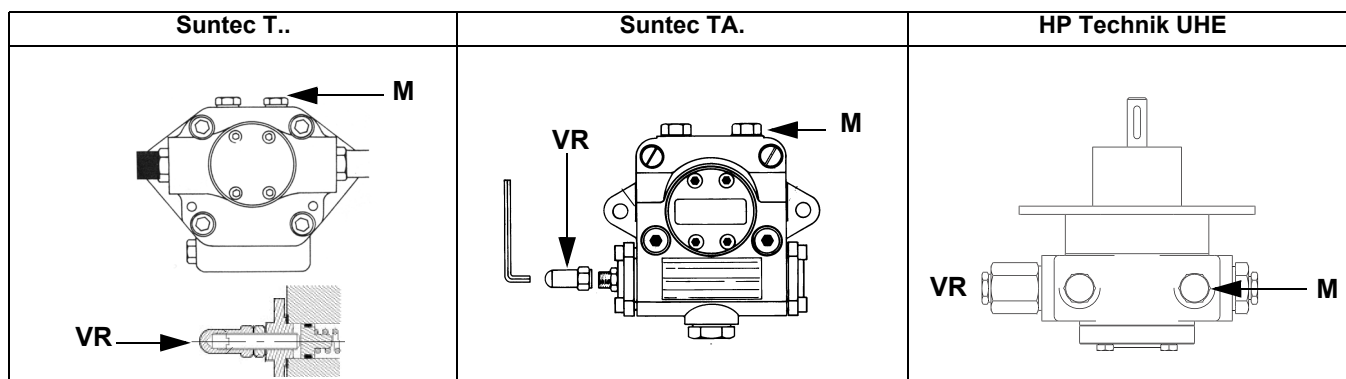

Fig. 9
- 3 bleed the air from the **M** pressure gauge port (Fig. 9) by loosening the cap without removing it, then release the contactor.
- 5 Only if necessary, adjust the supply pressure as follows (see related paragraph); insert a pressure gauge into the port shown on Fig. 10 and act on on the pump adjusting screw **VR** (see Fig. 9) as to get the nozzle pressure at 20bar (Monarch or Fluidics nozzles - see page 43-38).